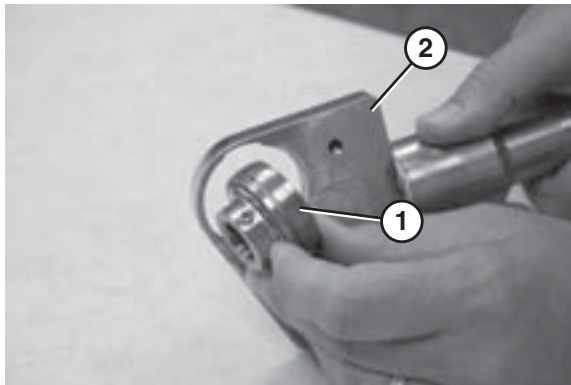

Figure 98
2. Remove the bearing (Figure 98, item 1) from the nose bar shaft assembly (Figure 98, item 2).